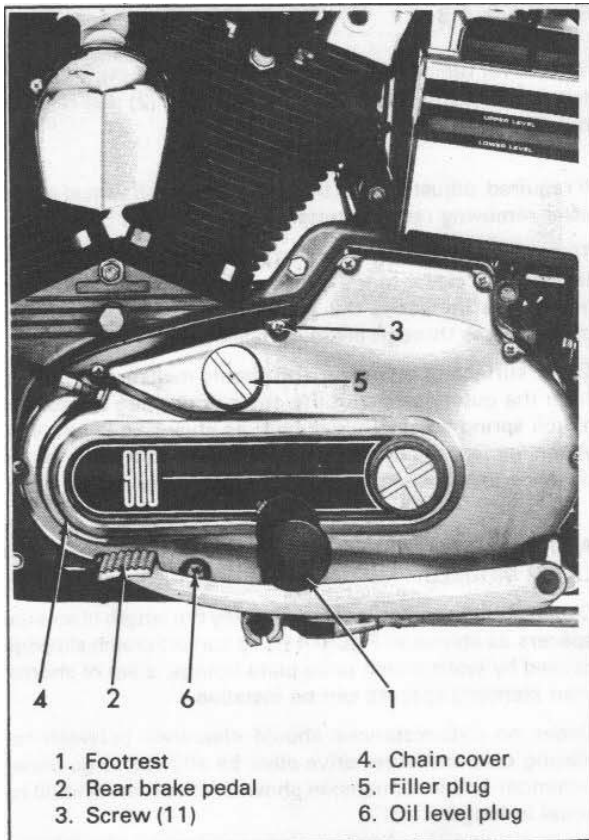

Figure 4-2. Removing Front Chain Cover
See Figure 4-2 and proceed as follows. Remove left footrest (1), and rear brake foot lever (2). Place an oil drain pan under clutch and remove front chain cover screws (3), cover (4) and gasket (not shown).
ADJUSTING CLUTCH SPRING TENSION (1970 TO EARLY 1974 MODELS) (Figure 4-2)